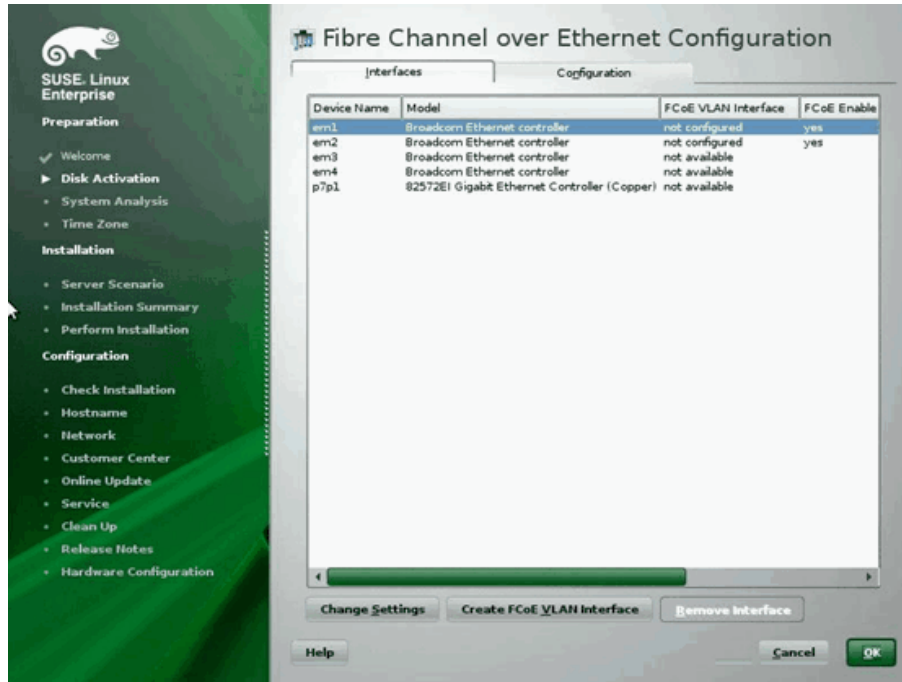

Figure 14-15. Enabling FCoE
5. Ensure that **FCoE Enable** is set to **yes** on the 10GbE Marvell initiator ports that you want to use as the SAN boot paths (Figure 14-15).